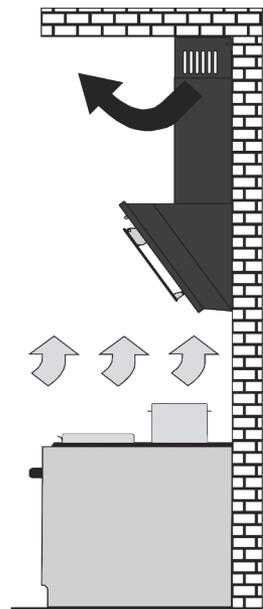

Fig. 2
recirculation (closed-loop kitchen air circulation) when a cooker hood is not connected to a chimney; air passes through an aluminium grease filter **(supplied with the hood)** and an **optional** odor-absorbing carbon filter and, finally, returns to a kitchen (Fig. 2).
- recirculation (closed-loop kitchen air circulation) (Fig. 2).